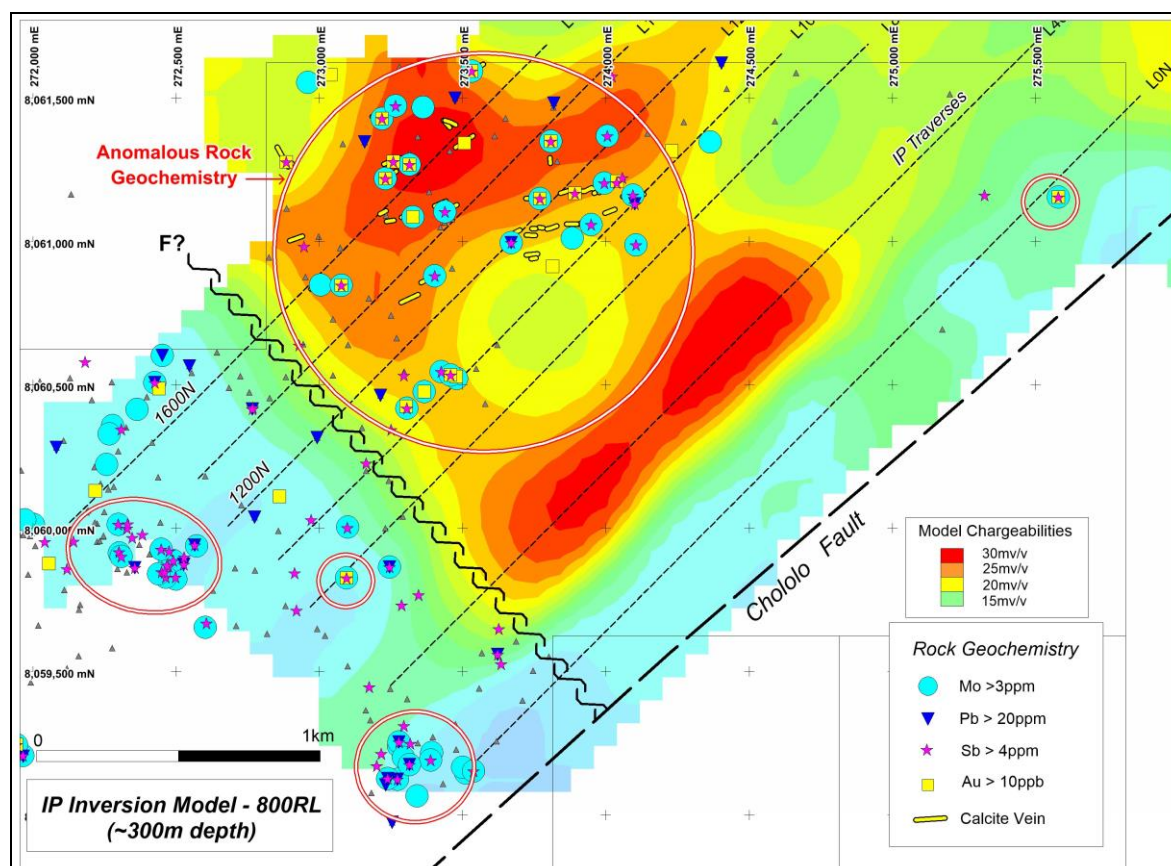

Figure 1: Chololo IP Target and rock geochemistry
Induced Polarisation (IP) Surveys conducted over the project have located strong chargeability anomalies in the northern half of the prospect, indicating the potential for a buried porphyry (copper) system in this area. Preliminary computer modelling of the IP data has confirmed the large target size and strength of response, suggesting potential for significant amounts of sulphide mineralisation within the source rocks (Figures 1 and 3).
Strong IP responses (chargeability >20mv/v) were detected on most lines, indicating the potential for buried sulphide mineralisation at depths ranging from ~150m to 400m, and extending over several square kilometres in area. The IP anomalies are thought to reflect a large-scale pyrite (+/- chalcopyrite) halo associated with an inferred buried porphyry copper system (Figure 1).